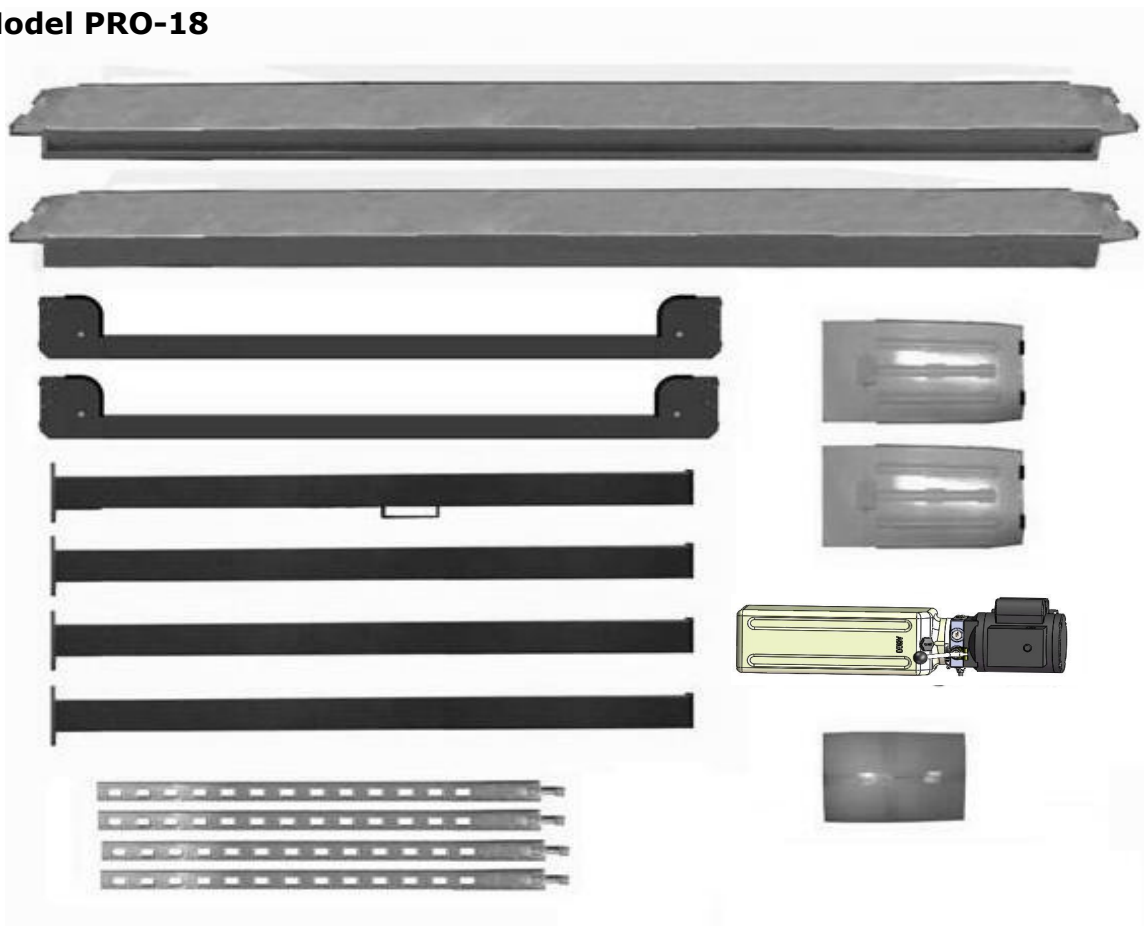
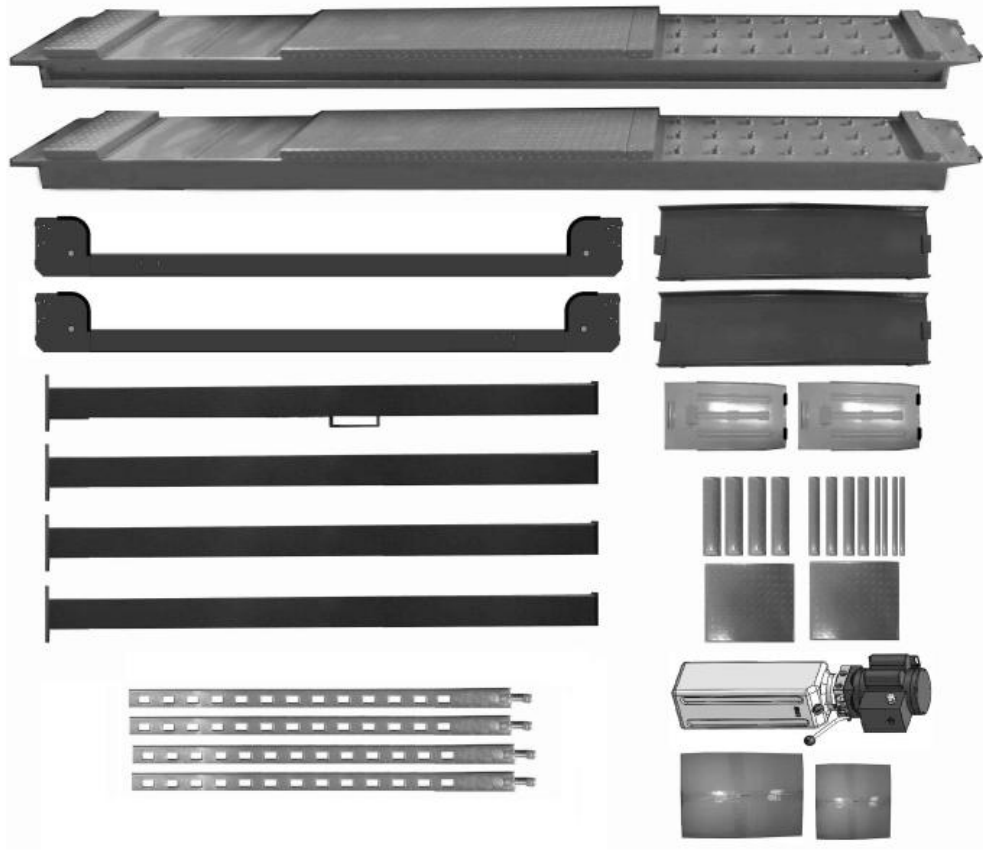

Fig.9
Fig.10
6. Move aside the parts and check the parts according to the shipment parts list (**See Fig. 9, Fig. 10**).